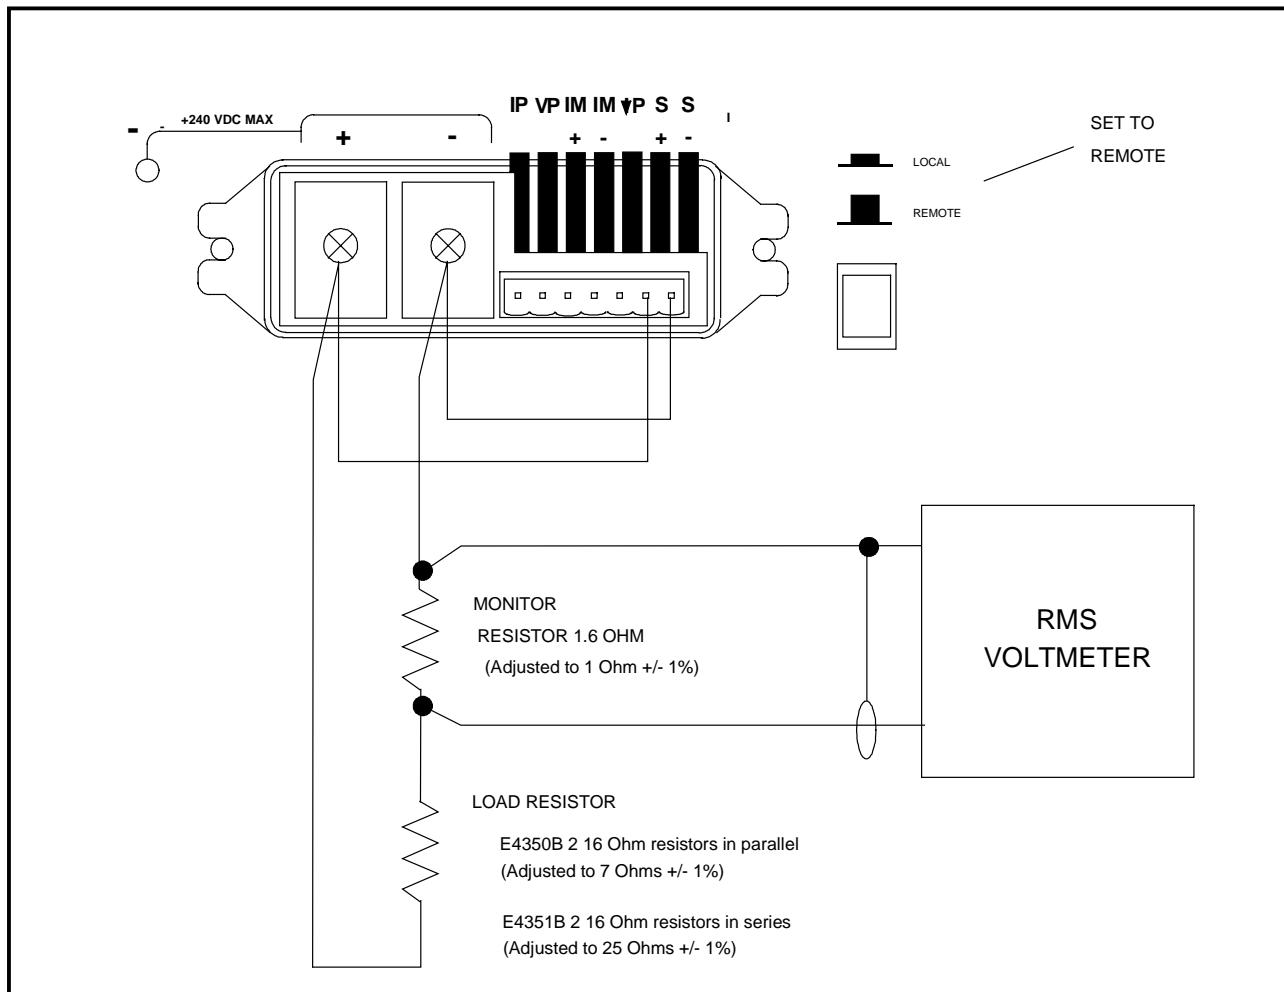

Figure 2-3. CC RMS Noise Measurement Test Setup
- CC RMS Noise Measurement Setup (Figure 2-3)
Use Fig 2-3 with scope across monitoring resistor for P-P ripple or RMS voltmeter for RMS.
<p>* Enter your results in this column</p> <p>** PARD (Optional Test in SAS mode)</p> <p>Program I – V Curve: $I_{SC} = 4\text{A}$ $I_{MP} = 3.75\text{A}$ $V_{MP} = 120\text{V}$ $V_{OC} = 130\text{V}$ $R_L = 32 \text{ Ohms}$. Use Fig 2-3 with scope across monitoring resistor for P-P ripple or RMS voltmeter for RMS.</p>